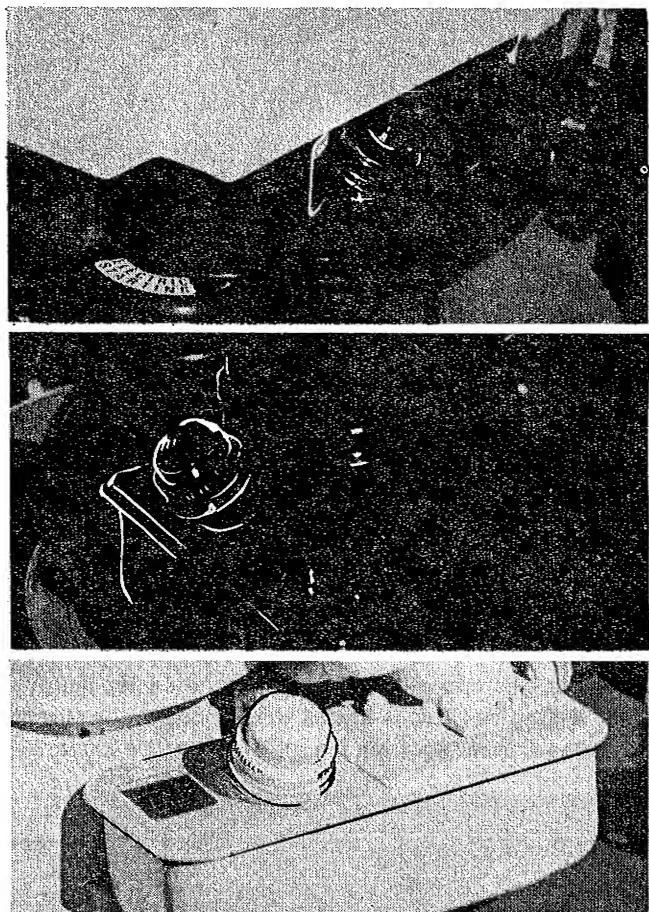

FIGURE 5
2. Fuel Supply: Check the fuel supply. Fill tank completely with clean, fresh, leaded or non-leaded "Regular" grade automotive gasoline. (DO NOT MIX OIL WITH GASOLINE). Store gasoline in small quantities as prolonged storage produces gum. (Figure 5).